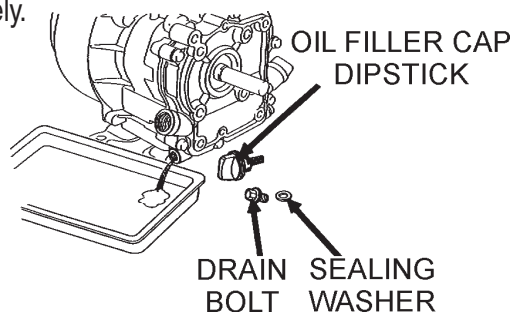

Figure 25. Engine Oil (Draining)
1. Drain the engine oil when the oil is **warm** as shown in Figure 25.